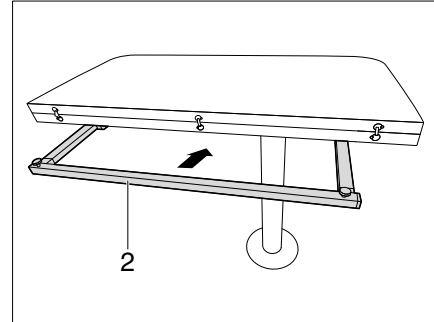

Fig. 122 Push in the folding table base
- Push in the table base (Fig. 122,2).